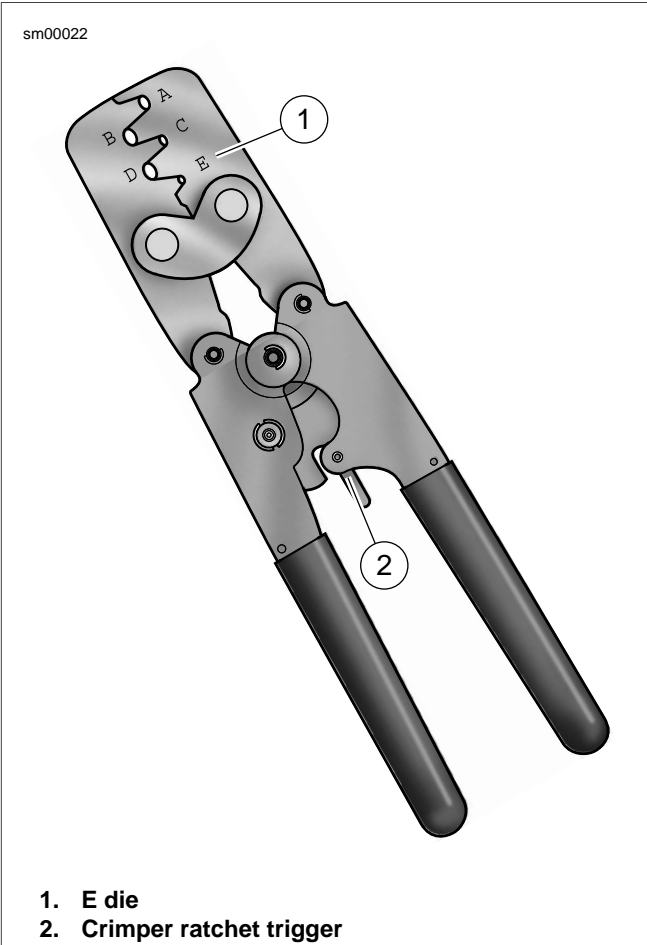

Figure A-18. Packard Terminal Crimper (HD-38125-7)
1. See Figure A-18. Compress the handles of PACKARD TERMINAL CRIMPER (Part No. HD-38125-7) until the ratchet (2) automatically opens.